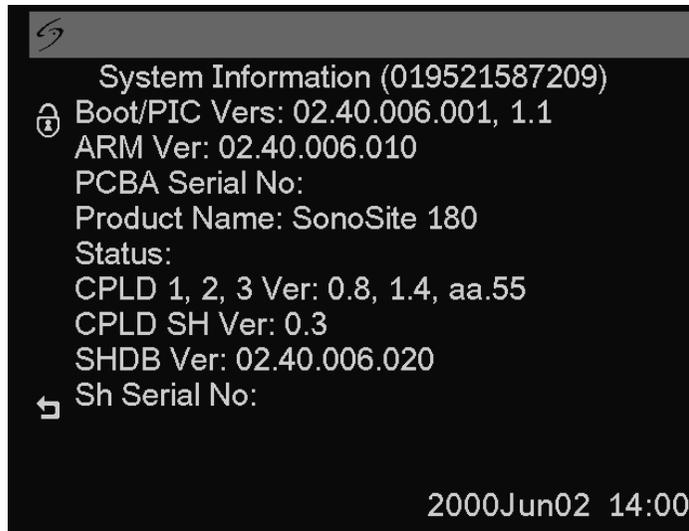

Figure 4.5 System Information Screen
2. Press and release **i**. The system information screen displays (Figure 4.5).